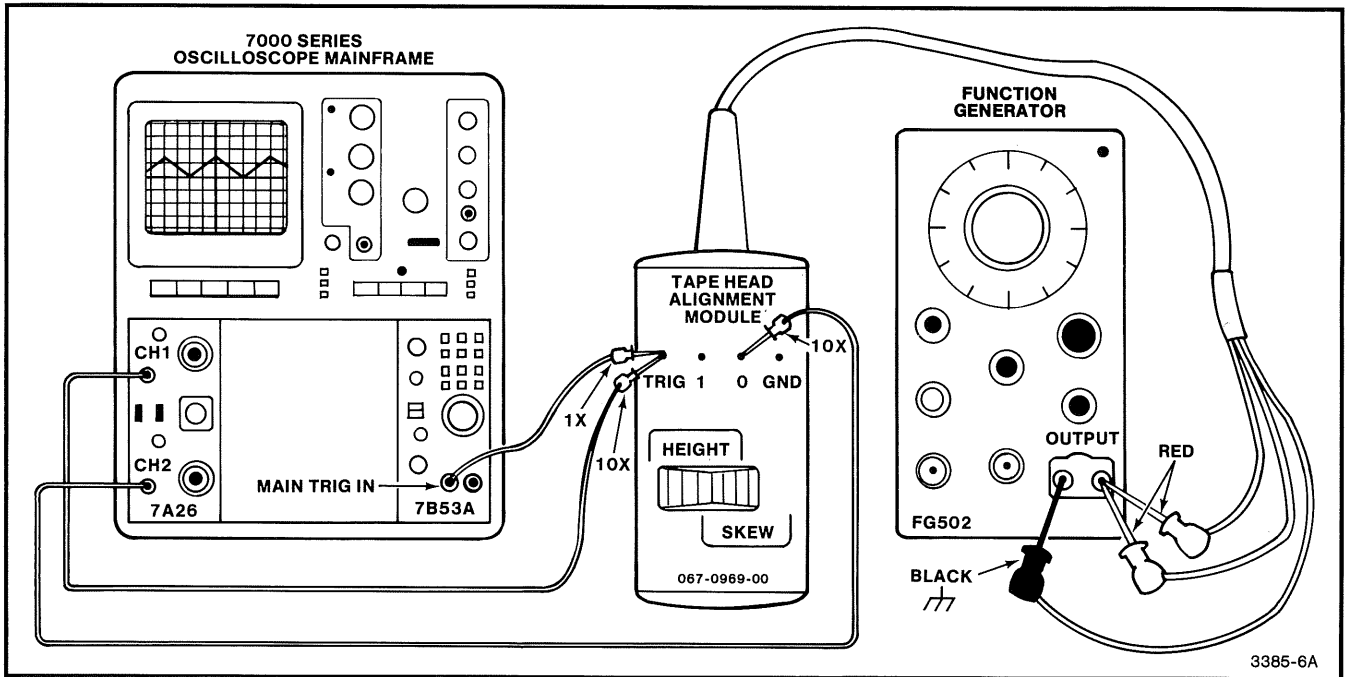

Figure 6-1. Tape Head Alignment Module Test Setup.
2. Connect the 10X probes to the vertical amplifier inputs (Figure 6-1).
3. Refer to Figure 6-1. Using the 10X probe, connect the vertical amplifier Channel 1 input to the TRIG pin of the Tape Head Alignment Module. Connect Channel 2 to the 0 pin of the module.